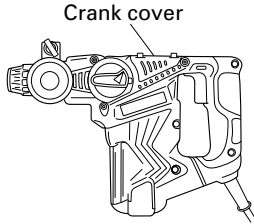

Fig. 24
- (1) Disassemble the crank case cover and thoroughly wipe off the old grease inside. (Fig. 24)